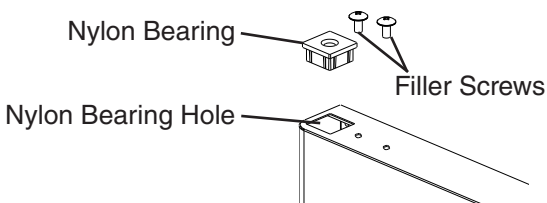

Fig. 15
- 7) Rotate the door 180 degrees, to its new orientation. Remove the nylon bearing and filler screws. See Fig. 15. **NOTICE! Care should be taken not to damage the door.** Mount the nylon bearing and filler screws into the holes left by the spring cartridge in the lower section of the door. See Fig. 16.